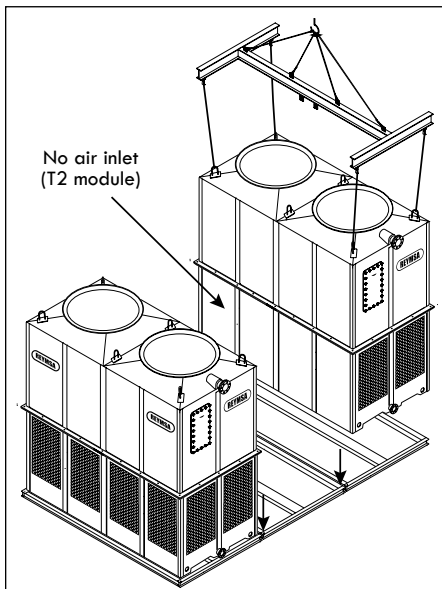
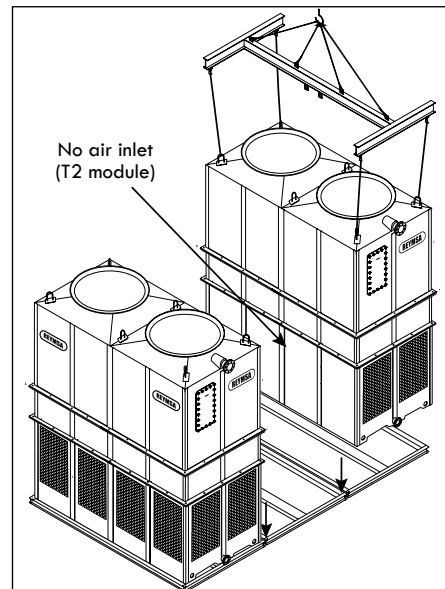

Figure A-63: L-Orientation - T2 module lifting and installation (RTM-B-L or RTPM-B-L)
Figure A-64: L-Orientation - T2 module lifting and installation (RTM-D-L or RTPM-D-L)
- B.** Repeat the previous steps to install the remaining modules. Pay attention to the correct module arrangement; Each module is labeled alphabetically (module 1: A; module 2: B, etc.) for a proper installation (see Figure A-63 and Figure A-64).